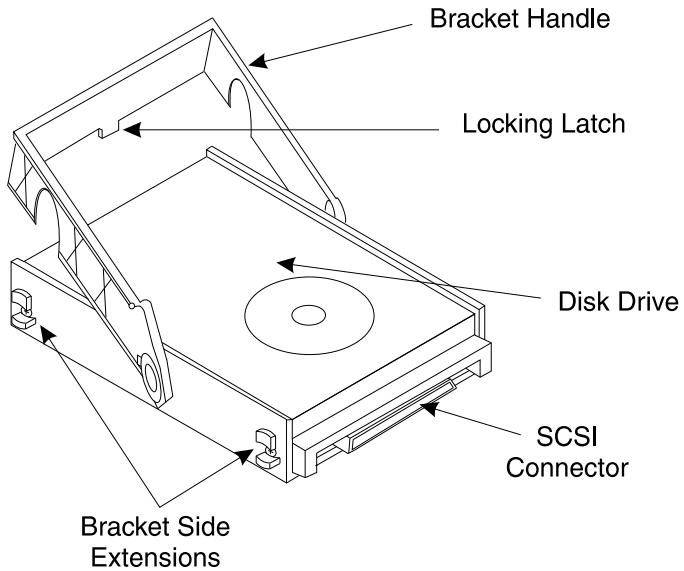

Figure D-26: Single Connector Drive — Handle, Latch, Bracket Side-Extensions, and SCSI Connector Components
3. Remove the disk drive from the antistatic bag, lay the bag on a flat surface, and place the disk drive (PCB-side up) on top of the antistatic bag (see Figure D-26).
5. Raise the plastic handle to a vertical position by pressing the handle-locking latch and pulling the handle up (see Figure D-26).